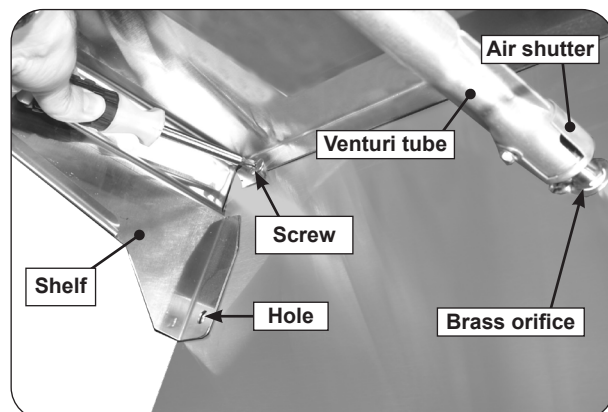

Fig. 27-4 Burner shelf setup (under shelf view)
2. Hold the sideburner shelf up against the left side wall of the grill so that the holes in the shelf line up with the four (4) threaded screw holes in the side wall and the air-shutter end of the sideburner venturi tube fits around the brass orifice protruding from the side of the cart. See Fig. 27-4.
3. Insert and start screws with fingers and then tighten using a Phillips screwdriver. See Fig. 27-4.